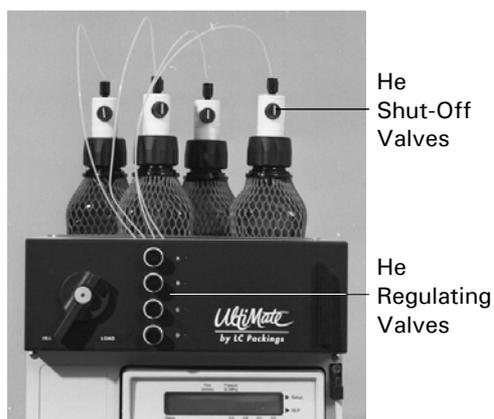

FIGURE 2-40 Solvent Organizer with He Shut-Off Valves and He Regulating Valves
- c) Open the He regulating valves and verify that the He shut-off valve on top of each solvent reservoir (FIGURE 2-40) is open (i.e. the white line should be vertical). Allow vigorous sparging to continue for approximately 10 min before continuing. After the vigorous sparging is complete, reduce the flow to a maintenance level (see Section 3.3.1).